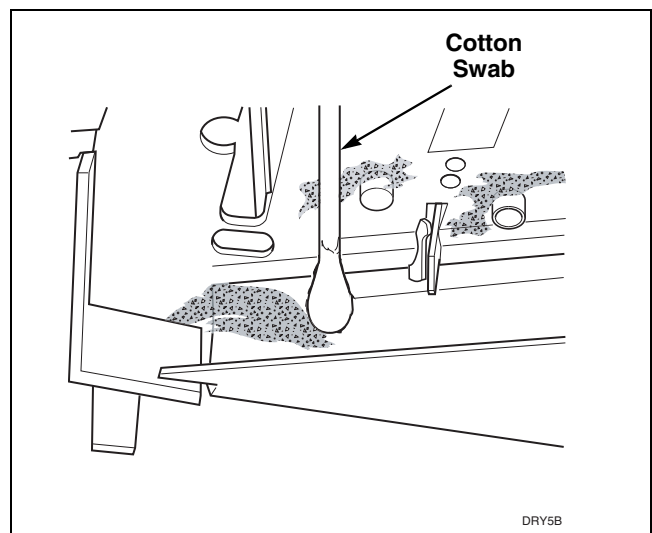

Figure 20
- Check coin path in coin drop for lint and residue. If lint or light residues are present, use a cotton swab to remove. If heavy residue is present, it may be necessary to first scrape off excessive residue and then use a cotton swab dipped in water or isopropyl alcohol (rubbing alcohol) to remove remainder of residue. Refer to *Figure 20*.